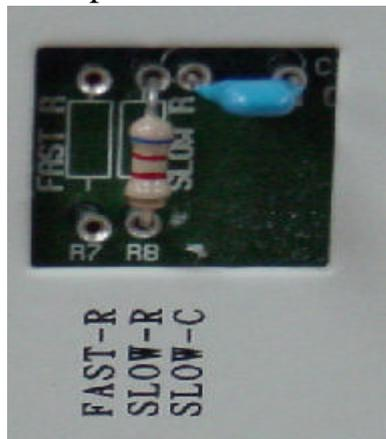

Figure 8
3.2 Example: Refer to Figure 8 for the way of connecting Slow-R&C pin.